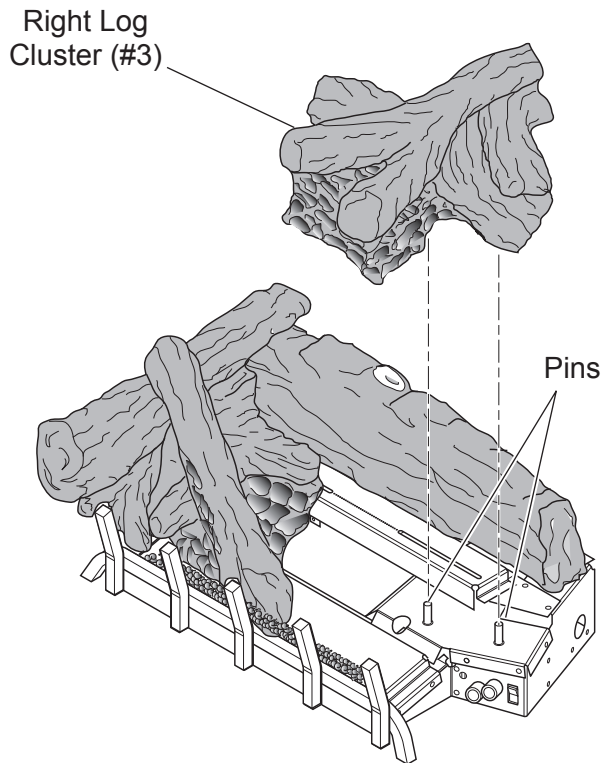

Figure 28 - Installing Right Log Cluster (#3)
3. Install right log cluster (#3) on two pins located on right side of base. See Figure 28.